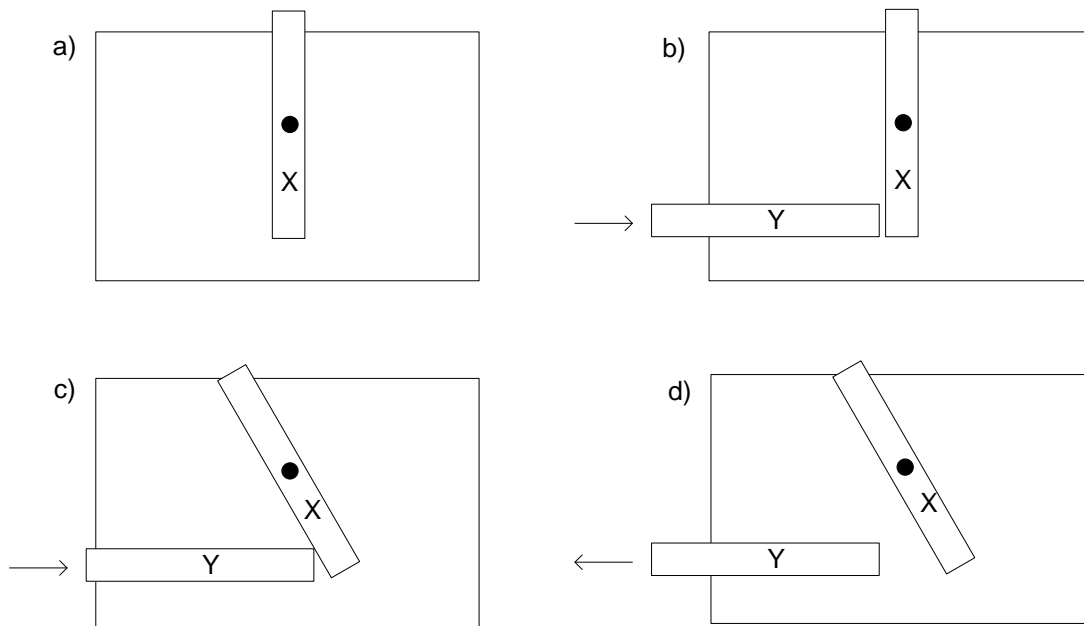

Figure 2: Y does not control X; it can push it in one direction, but not pull it back
- ✂ Make and demonstrate a pegboard construction like in Figure 2. Does Y control X? Why or why not?
An obvious way to attempt the design challenge would be simply to push the first strip with a second, as shown in Figure 2: a) shows the original strip X. In b), another strip Y is lined up with the bottom of X, and in c), used to push the bottom of X to the right. However, this method does not satisfy the goal of controlling X, as you can see in 2 d). When Y is pulled back to the left, X does not follow it.